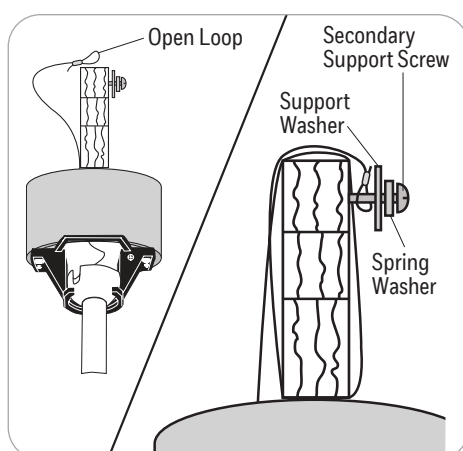

Figure 3.2
2. Install secondary support screw, spring washer and support washer partly into the side of the brace installed in the ceiling. Then loop the braided cable up and over the ceiling brace and place the open loop of the braided cable around the secondary support screw. **Note:** The ceiling support brace may not be accessible from below. If not, it must be accessed from above. **Important:** The braided cable must make a complete circle around the support brace to secure the fan (Figure 3.2).